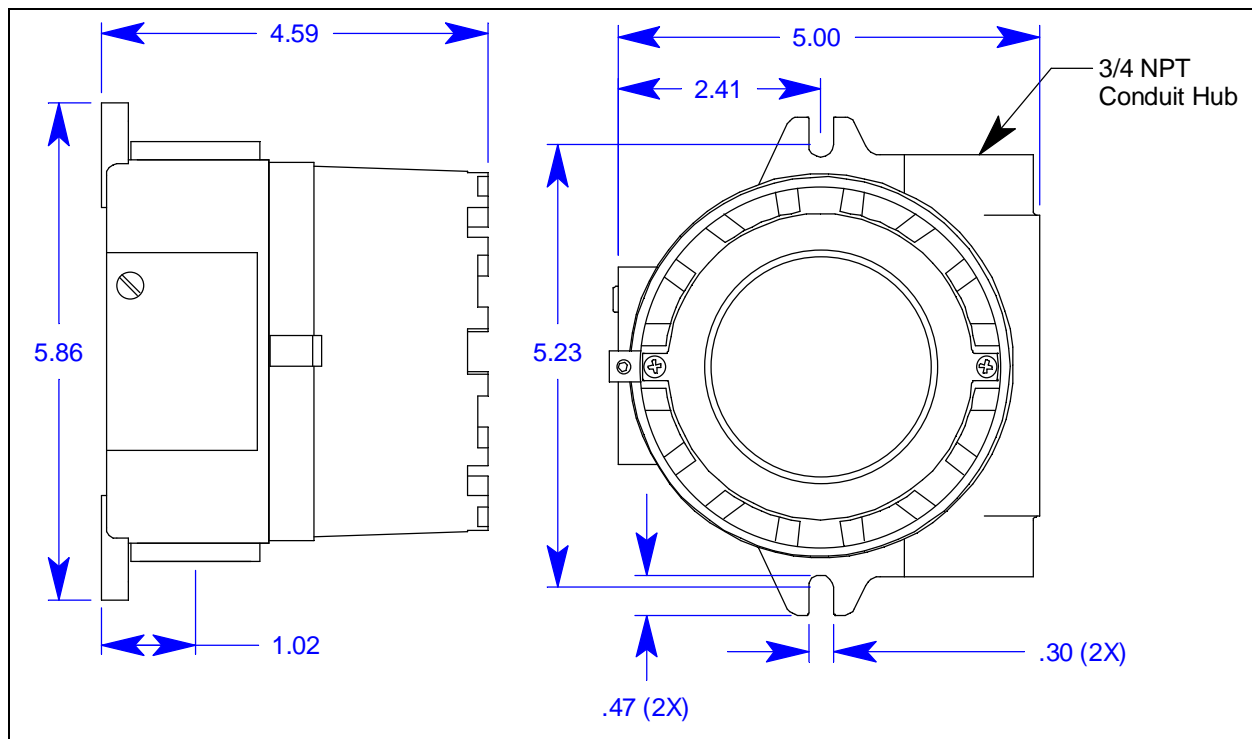
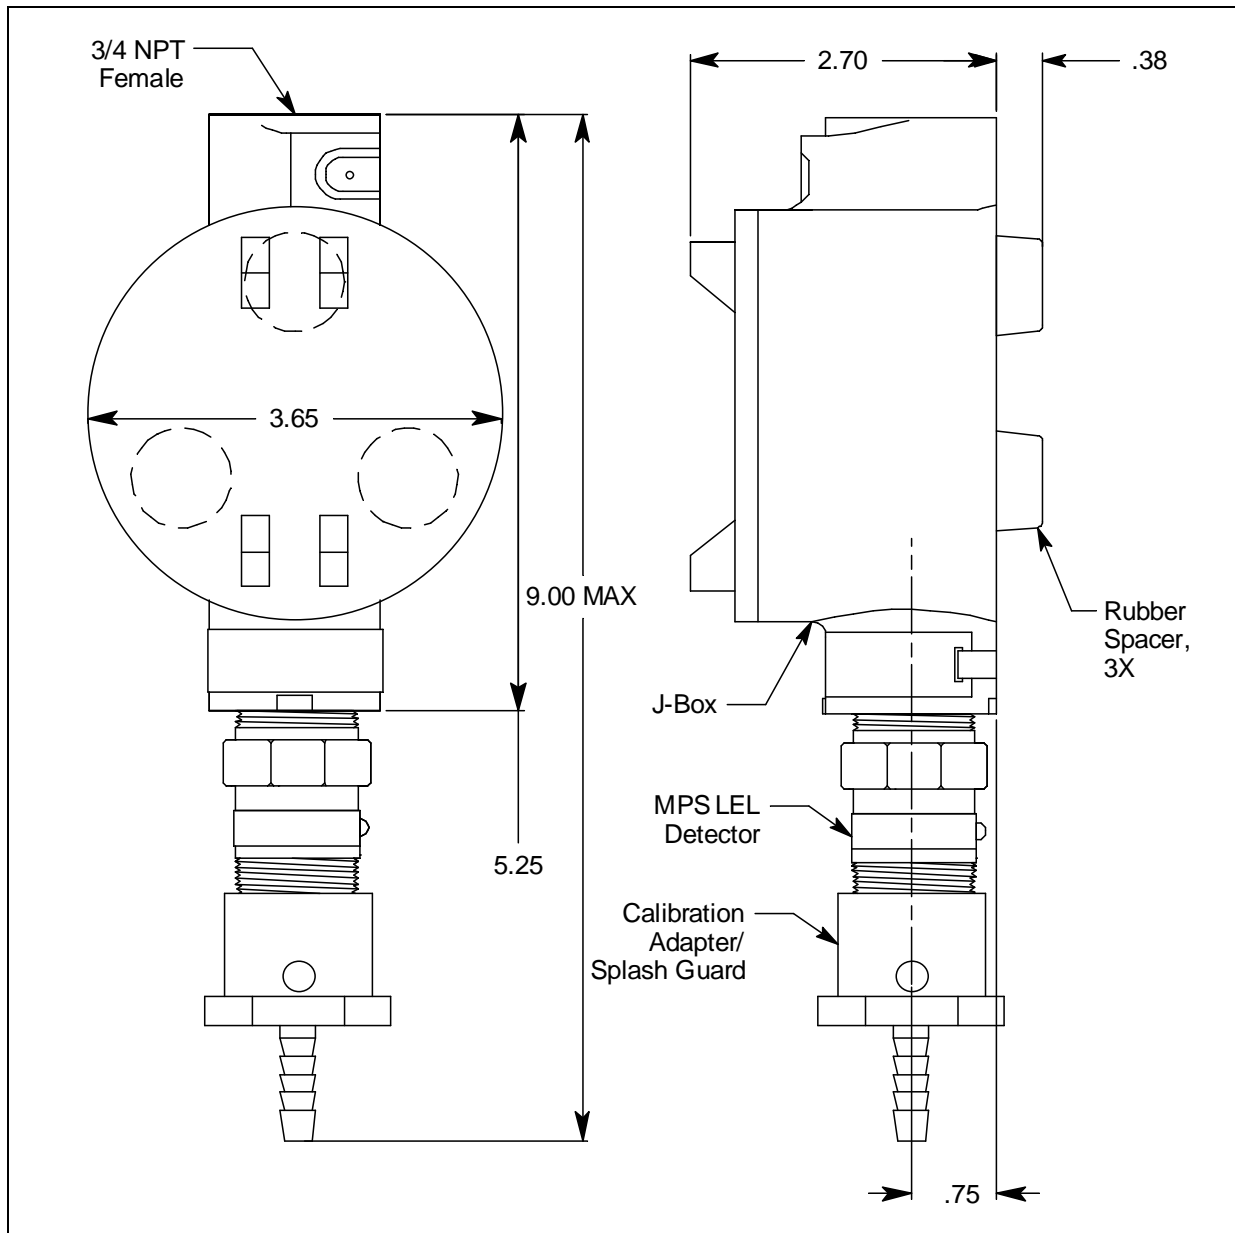

Figure 5: Outline & Mounting Dimensions, M2A Transmitter
Figure 6: Outline & Mounting Dimensions, MPS LEL Remote Detector
2. At the monitoring site, use #10 screws through the junction box's two mounting holes to secure the junction box to a vertical surface. Figure 5 and Figure 6 show the outline and mounting dimensions for the M2A transmitter and the MPS LEL detector. Mount the M2A with the detector facing down as shown in the following figures.